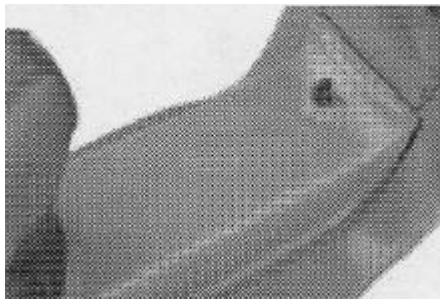

Fig. 15
## BATTERY COMPARTMENT (FIG.15)
**Use the set of quick contacts supplied to fit the Fig.15 batteries, bearing in mind that each connection must be made between a negative pole (-) and a positive pole (+).**